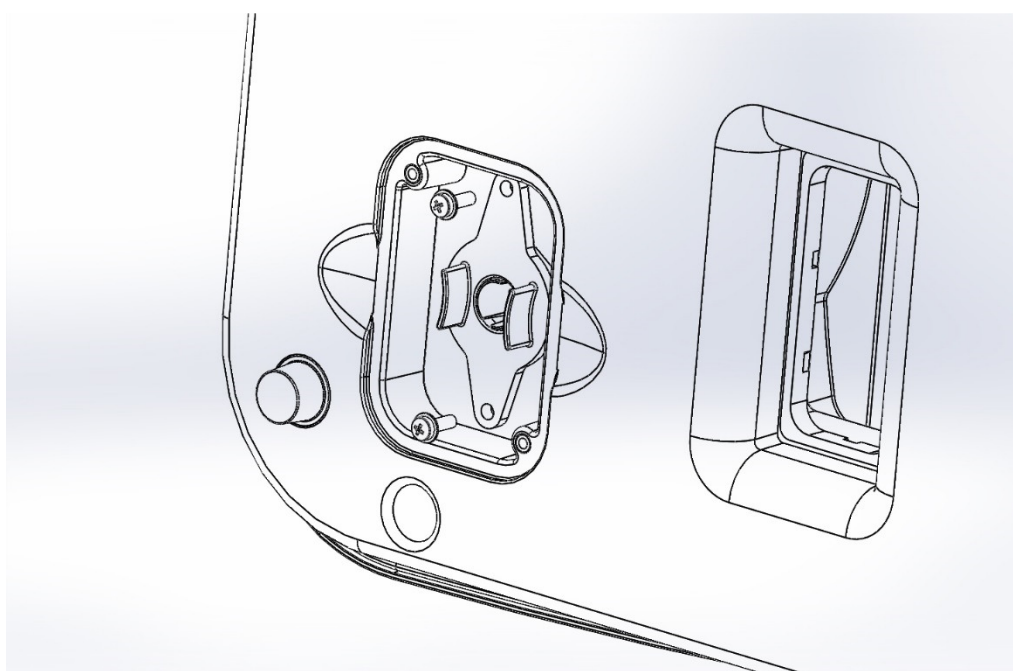

Fig 1
3. Remove the two fixing screws and washers which retain the lamp assembly (**fig 1**).